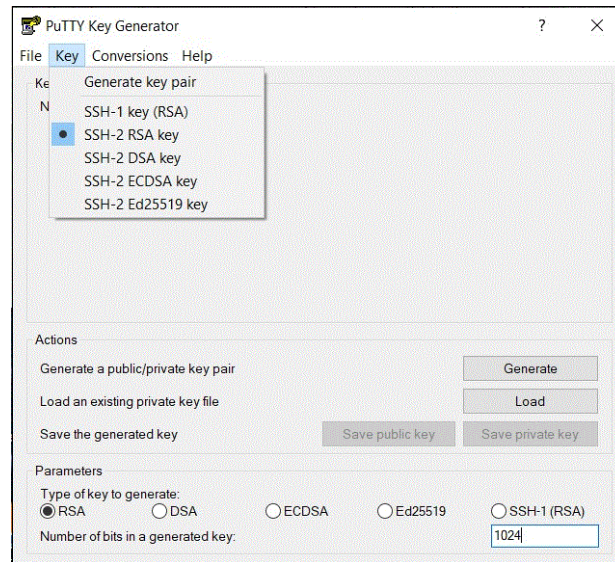

Figure B-1 PuTTY key generator
1. Start the PuTTY key generator to generate the public and private key pair, as shown in Figure B-1.